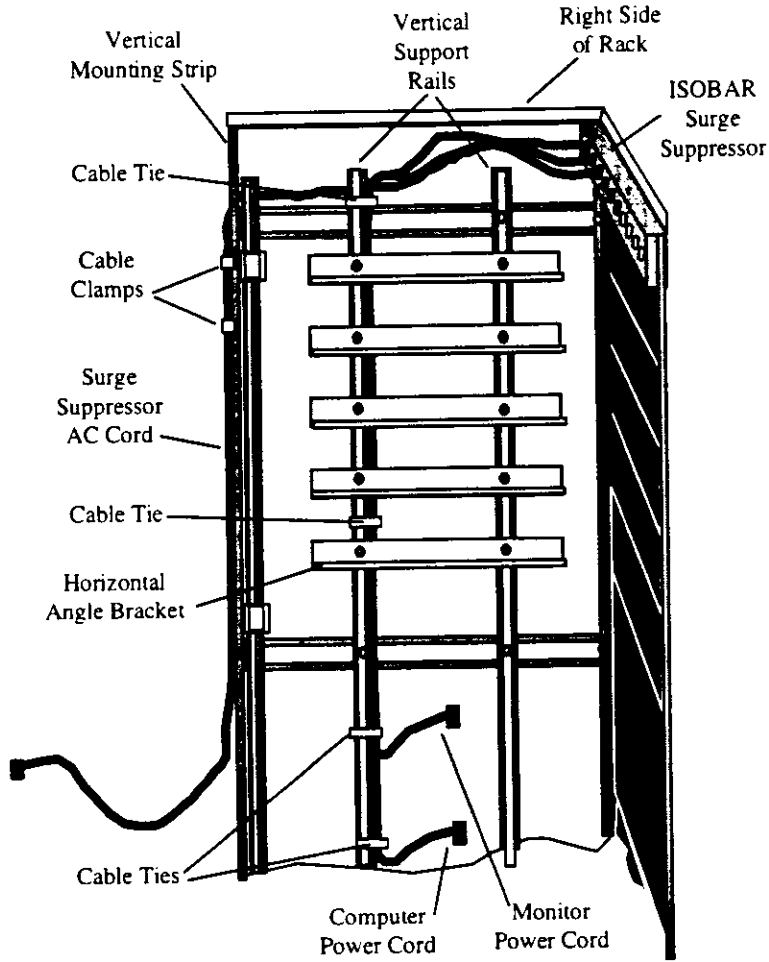

Figure 2-7. Primary Rack Rear Panel
- Route the ISOBAR® Surge Suppressor AC Input cord, along the right upper side of the rack, above both angle bracket vertical support rails, and out the rear of the rack as shown in Figure 2-7.
- Secure the cord to the rear vertical mounting strip as shown in Figure 2-7, using two short cable clamps and two 10-32 x 0.50 screws and washers.
- d. Attach both the computer power cord and the monitor power cord to the right side angle bracket vertical support rail as shown in Figure 2-7, using a long cable tie.
- g. Route the monitor and computer power cords down along the side of the rack as shown in Figure 2-7. Secure the two cords to the right rear side angle bracket vertical support rail using two additional long cable ties.